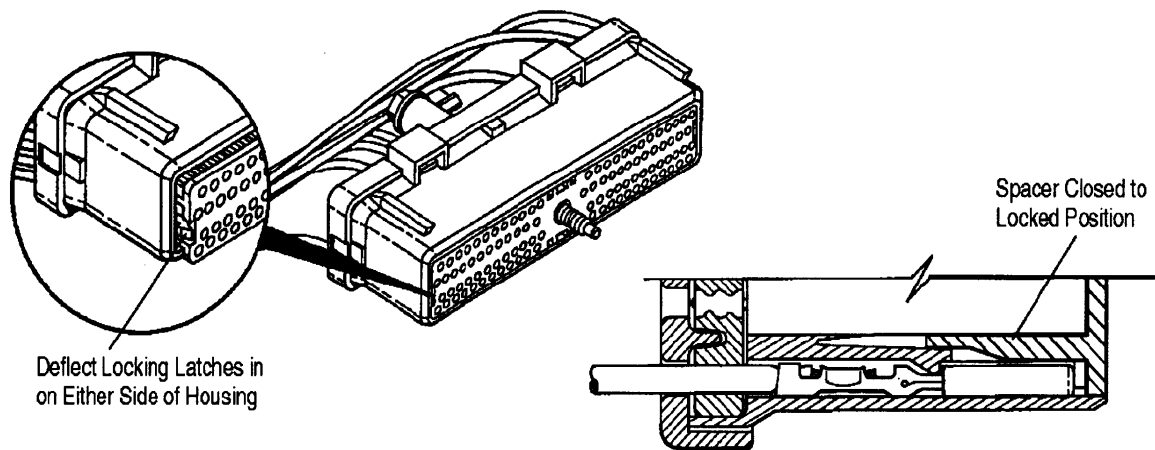

Figure 3
3. After all required contacts have been inserted, the spacer must be closed to its **locked** position. Release the locking latches by squeezing them inward and slide spacer forward until it is flush with the housing plug assembly (see Figure 3).